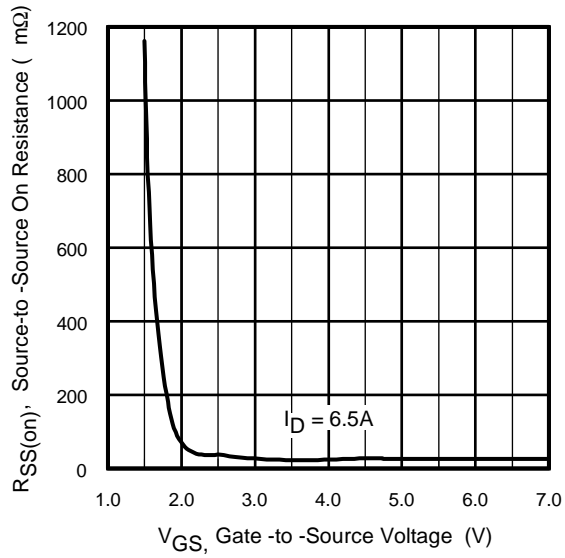

Fig 5. Typical On-Resistance vs. Gate Voltage. Ⓢ
- ⑤ Figures 5, 6 and 7: G1 and G2 are shorted. See Fig.9a&b.
- ⑥ The diode connected between the gate and source serves only as protection against ESD. No gate over voltage rating is implied.